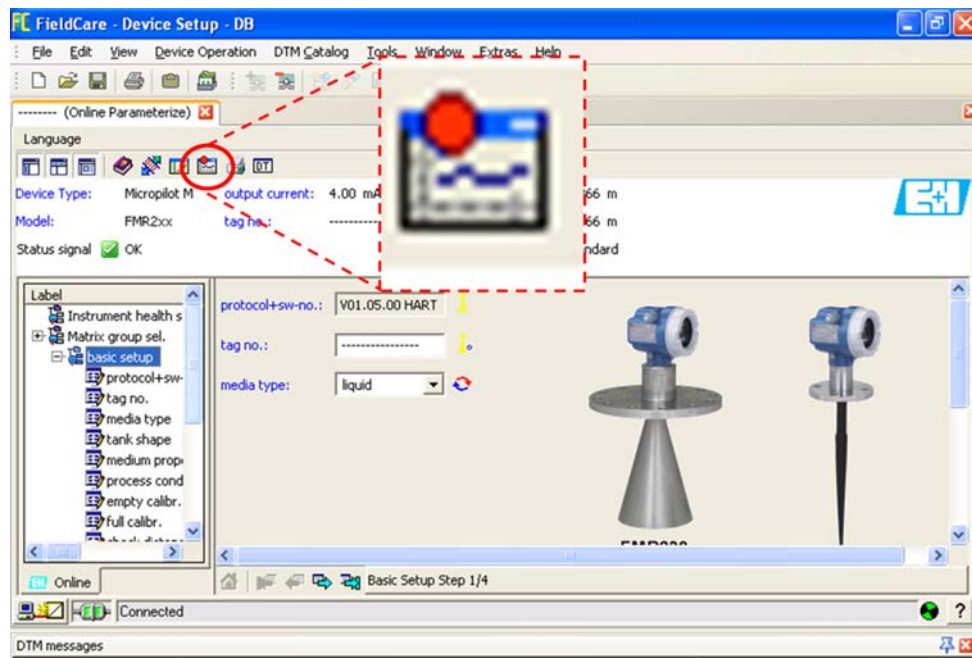

Figure 3-11. Select **Envelope Curve** icon
4. Once a connection is established, select the **Envelope Curve** icon in FC tool window (fig. 3-11).
4. After a new blocking distance is selected, repeat the steps outlined in fig. 3-11 and fig. 3-12 to use the **Envelope Curve** tool to plot a return sample and determine if the return from the water surface is being selected as the target range.